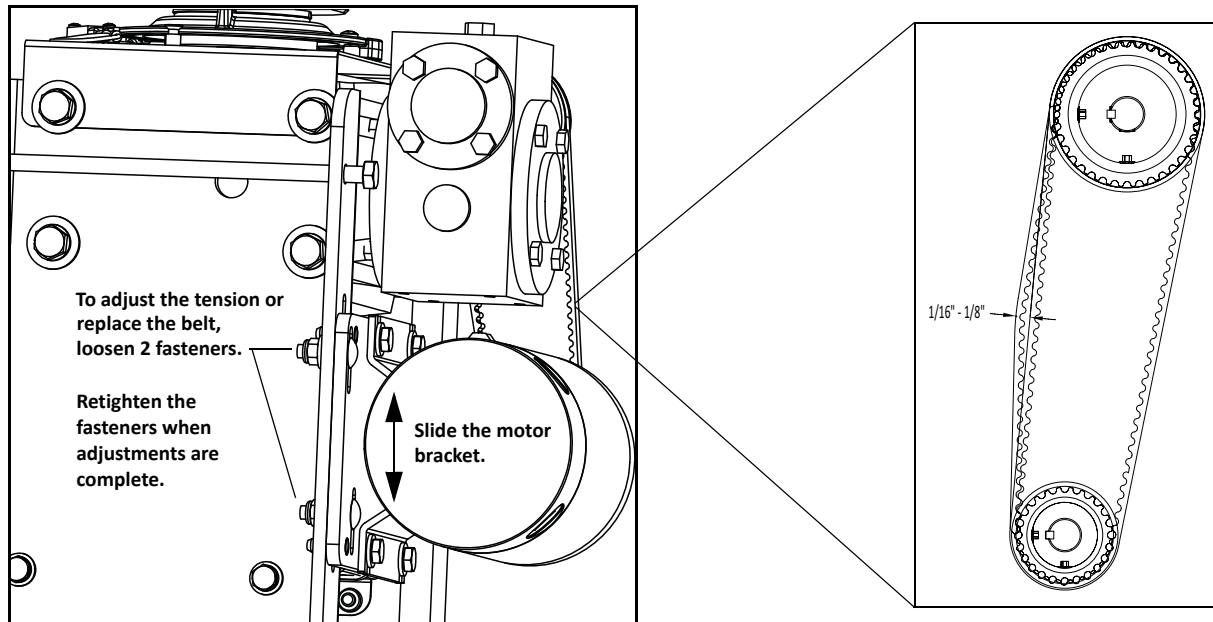

Figure 6-16.
3. With your finger, apply light outward pressure to the drive belt. If it is properly tensioned, it should only move about 1/16-inch to 1/8-inch (1.6 to 3.2mm). See Figure 6-16.